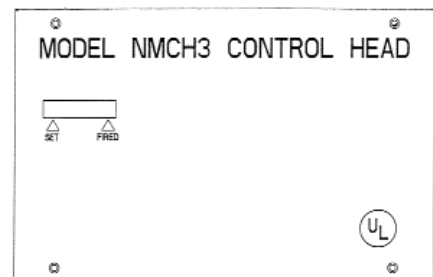

FIGURE 7
The Model NMCH3 Mechanical Control Head is a fully mechanical control head which can be connected to the A-15/17/25/35/70 a fusible link detection system, a remote mechanical pull station (Model RPS-M), and an electric shut-off valve. A micro switch (Model MS-SPDT, MS-DPDT, MS-3PDT, or MS-4PDT) can be ordered separately and field installed. There is no local manual actuation for the Model NMCH3. The Model NMCH3 control head can actuate a maximum of five (5) tanks. See Figure 7.